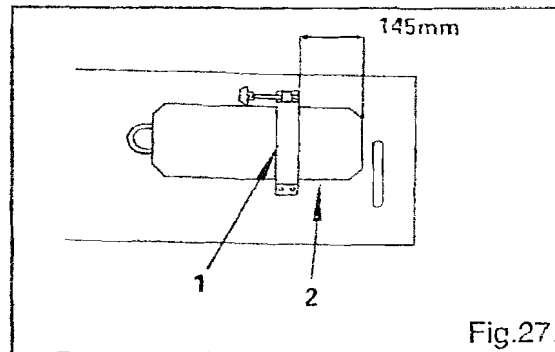

Fig.27.
23.MOUNT KNEE LIFTER (Fig.27, 28,29)
2. While turn to figure 27 shows, Knee control the presser to lift or down,
1. it should be noted that any free regulation can be made at the horizontal needle distance between min-max, set the vertical needle distance to O position and will adjust the knee-control parts to make the component control the movement of the sway of meedle.(Fig 27,29)